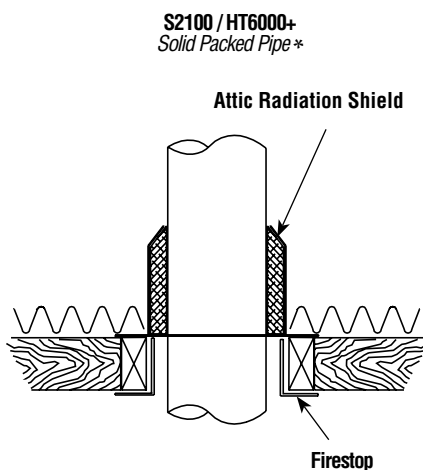
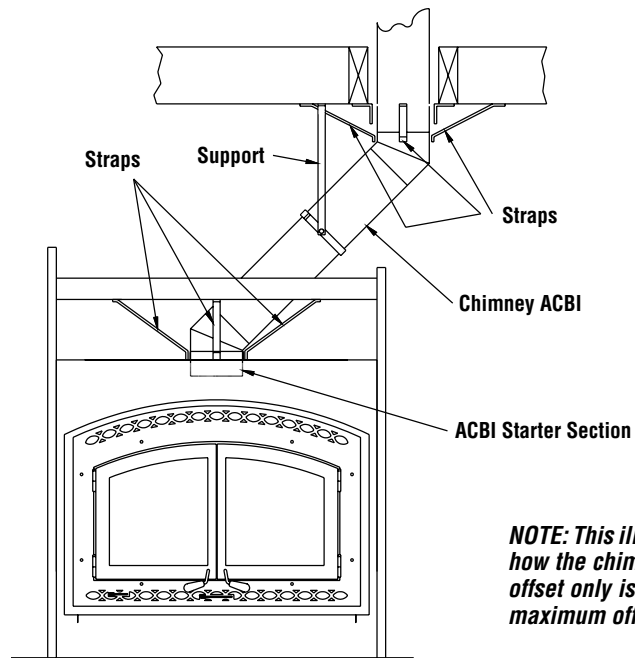

Figure 22a
Figure 27
2. From below, install a firestop in each ceiling/floor separation through which the chimney will pass. At the attic level, install an attic radiation shield from above (**Figures 22a and 22b**).
1. Install the first elbow; turn it in the required direction. Fasten it to the chimney with the three (3) 1/2" (12 mm) metal screws provided with the elbow.
2. Install the necessary chimney lengths to achieve the required offset. Lock the chimney lengths together: it is recommended to use three (3) 1/2" (12 mm) screws. If the offset length is made of two (2) chimney lengths or more, use an offset support halfway up the offset. If penetrating a wall, install a wall radiation shield (see **Figures 27 and 28**).
3. Use another elbow to turn the chimney vertically. Secure the elbow, using three (3) 1/2" (12 mm) screws (provided with the elbow).
5. From below, install a firestop (See **Figure 22a**).
1. Install the first elbow. Turn it in the required direction. To lock it in place, turn 1/8 of a turn. Fasten the straps attached to the elbow to the surrounding frame, using nails or drywall screws (**Figure 27**).